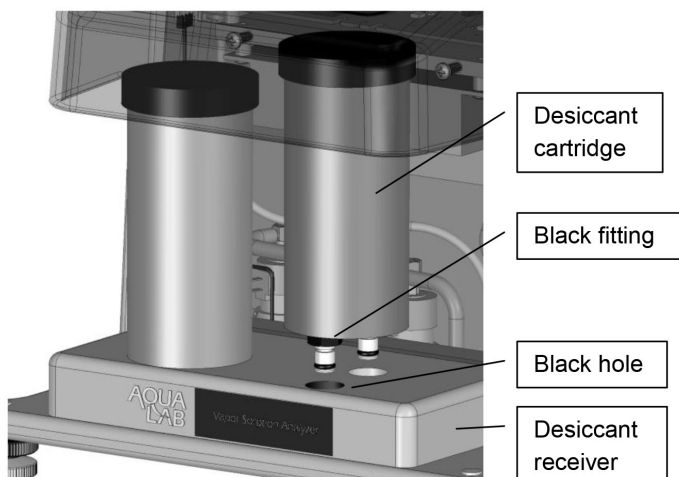

Figure 7: Desiccant Installation
4. Install the two desiccant tubes in the front of the instrument. Figure 7 shows the proper method of installing desiccant tubes. Before insertion, make sure to firmly seal the desiccant tube lid onto the desiccant tube and remove the black vinyl covers from the air fittings. Lift the desiccant tube into the area above the desiccant receiver and then insert the fittings into the mating holes. Be sure to place the black fitting into the corresponding black hole. Once in place, the desiccant tube is sealed for flow purposes even if it may feel loose.